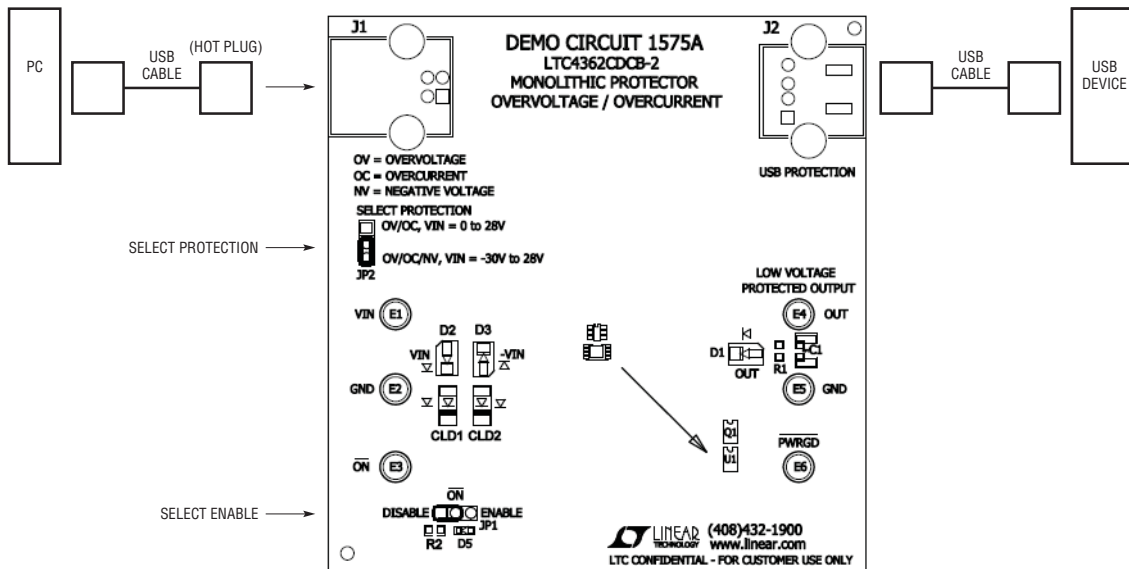

Figure 2. DC1506A USB Protection Setup
- 5) For USB protection, connect a USB cable from J2 to the USB device (Figure 2). Select the protection type at JP2. Connect a second USB cable from a computer to J1.